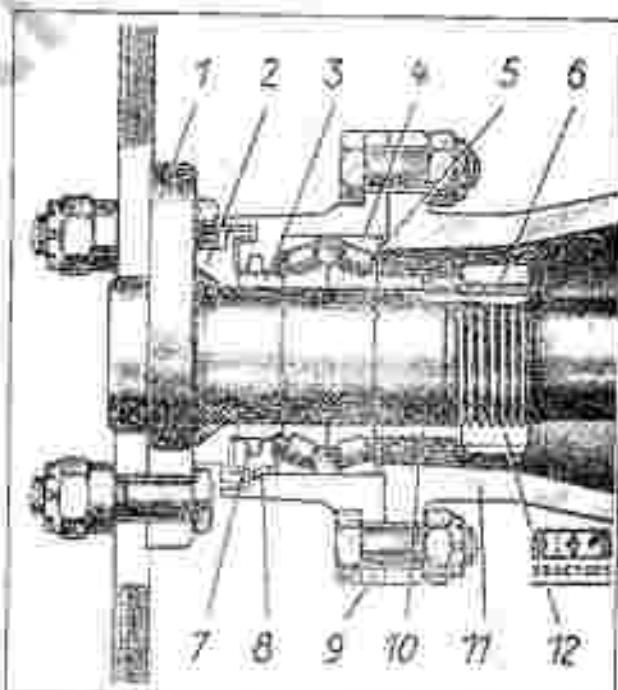

Fig. 76. Rear axle bearing.
3. Remove rear axle with bearing housing (9), Fig. 76, after unscrewing nut.
Place the rear axle vertically on two wooden blocks with the flange of the bearing housing (9), Fig. 76, resting upon these blocks and axle flange turned down and the inside roller bearing turned upward.
Now drive the outside ring (cup) of the inner tapered roller bearing - . Fig. 76, down as far as it will go by lightly tapping with a hammer on the circumference of this race with a drift. When all play in the bearing has disappeared, ascertain the distance between the outer ring and the edge of the bearing housing, then measure also, the height of the collar on the axle tube going into this recess. The difference between the two measurements plus the thickness of paper gasket (12), Fig. 76, indicates the clearance which must be filled either by shims (5) inserted between axle tube and tapered roller bearing, or by gaskets between axle tube and roller bearing, which must turn freely without showing any end play.